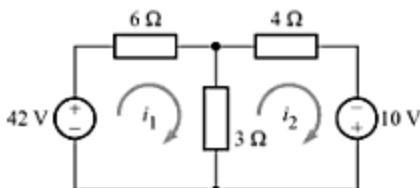

Fig. A-65
- A-22. Use the technique of mesh analysis to determine i_1 and i_2 in the circuit of Fig. A-65, and hence find the power absorbed by the 3-Ω resistor.